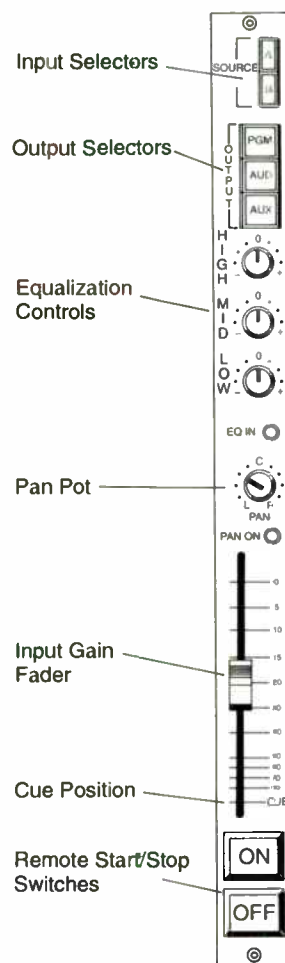

FIGURE 2.7 Single channel of an audio console.
Another function found on most boards is called cue and allows you to preview an input. Both rotary pots and fader controls go into a cue position, which is below the off position for that control. If you turn the rotary pot all the way counterclockwise to off, it will reach a detent, or stop. Keep turning the knob (with a little extra pressure) until it clicks into the cue position. Faders are brought down or "south" until they click into cue (see Figure 2.7). Some faders can be put into cue with a separate pushbutton that when depressed puts that channel into cue regardless of where the fader control is set. Cue position is usually marked on the face of the audio console.
Other "bells and whistles" that frequently appear on audio boards include **remote start switches** (see Figure 2.7). These are usually located below each individual channel gain control, and if the equipment patched into that channel (such as a tape cartridge player or turntable) has the right interface, it can be turned on, or started, by depressing the remote start. This makes it easier for the announcer to start a record while talking into the microphone without having to reach off to the side and possibly be pulled off mic.
Equalizers can also be used for special effects, such as making a voice sound like it is coming over a telephone line. Usually the equalizers are knobs or switches that increase or attenuate a certain range of frequencies. They are placed somewhere above each input volume control (see Figure 2.7). Equalizers will be discussed in further detail in chapter 9.
Audio console channel inputs that are **monaural** (such as a microphone channel) often have a **pan pot** or **pan knob**. (Review Figure 2.7.) By turning (panning) this knob to the left or right, you can control how much of the sound from that input goes to the right channel output and how much goes to the left channel output. In other words, if the pan pot of a mic channel is turned toward the "L" position, upon monitoring the vocal would sound stronger, or louder, from the left speaker. Normally, the pan pot would be in the center position and the input sound would be directed equally to the left and right outputs of that channel. **Stereo** input channels may have a **balance control** that serves a similar purpose.
2. In Figure 2.7, according to the pan pot position, what is the relationship between the sound signal going to the left channel and the signal going to the right channel?